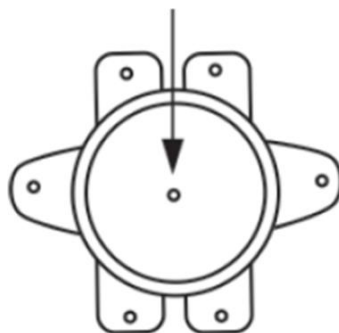

Fig 9
- Press the button located in the center of the thermal switch (round shape, near the heating element) until you hear a click, see Fig. 9;
6.To drain the water from the internal tank, you can use the drain hole (only for the FSL2 series) (you need to unscrew the plug that covers the drain hole).To drain the internal tank, use the safety relief valve: unscrew the screw of drain knob on the safety relief valve and move the drain knob to the up position — the hot water outlet tap must be open and the cold water inlet tap must be closed (see Fig. 9). Water will start flowing from the pressure relief port of the safety relief valve.